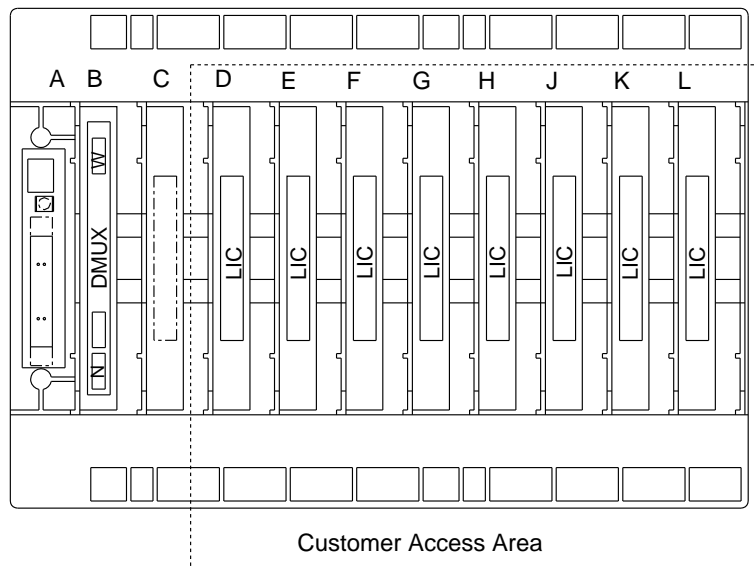

Figure 7-4. LIB1 Board
- Step 1. \_\_\_\_ Locate the LIU1 units. An LIU1 enclosure has two LIB1 boards populated with LIC1, LIC3 or LIC4 cassettes. (Figure 7-4 shows a LIB1 board.)